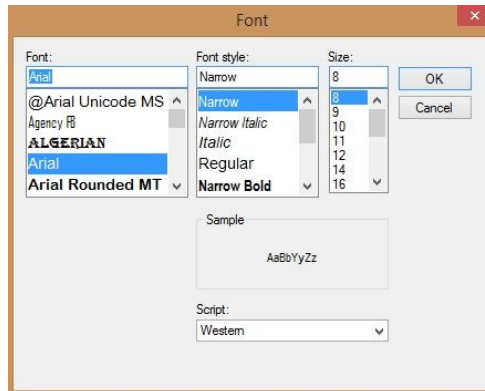

Fig. 96 – defining fonts
- define the font type and size (the **'Font on the printout'** button opens a window in which you can modify these settings - Fig. 96);